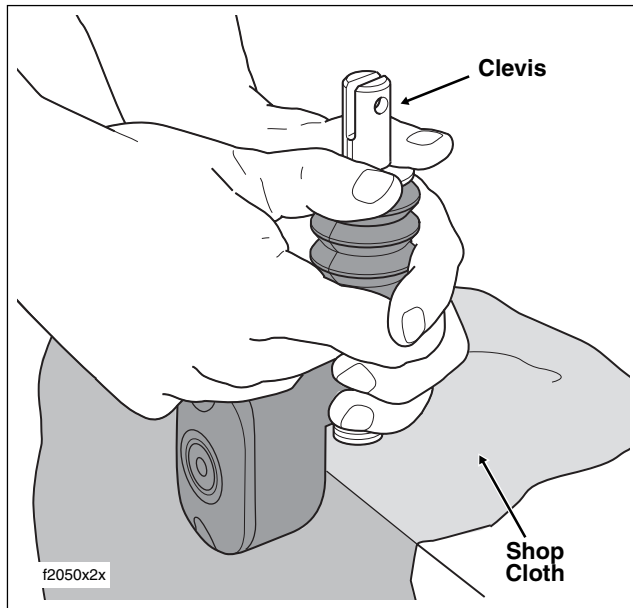

Figure 2-50. Compress Spring and Remove Retaining Ring
4. Push down on large flat washer to compress spring. While holding the spring in a compressed state, remove retaining ring from groove in clevis and then carefully release spring. See Figure 2-50. Discard retaining ring.